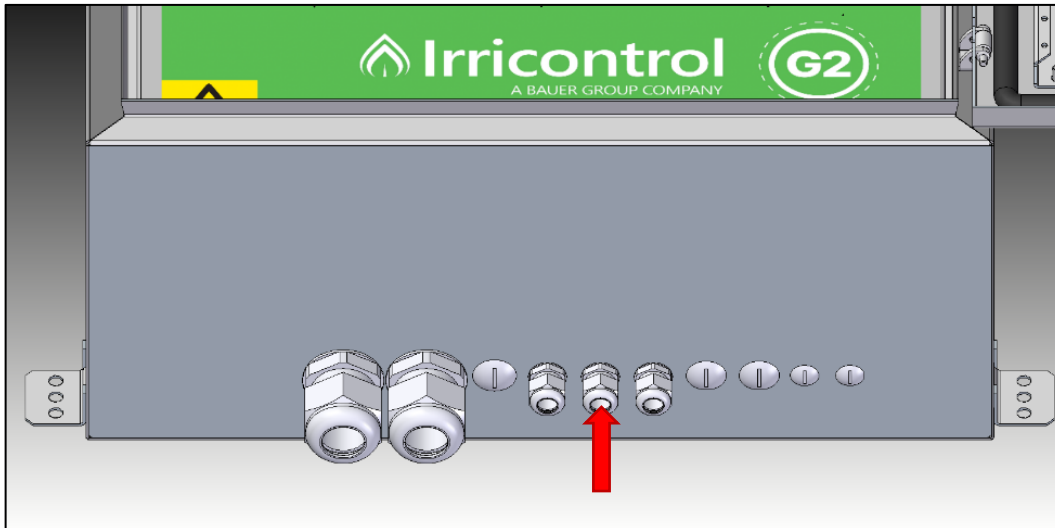

Figure 16 - Cable gland (PG) for pumping cable routing.
- A. Pass the pumping cables through the PG13.5 cable gland, shown in Figure 16.